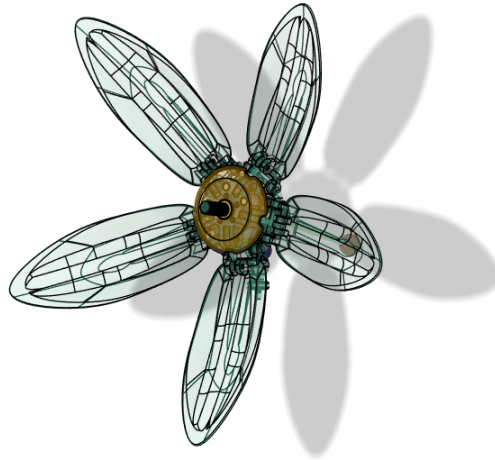

Figure 1: The fully assembled flower head.
10. Pre-solder the WS2812 LEDs into a chain of 5 using the 3-conductor wire, then glue the chain onto the petals. The flower head is now fully assembled and should match Figure 1.